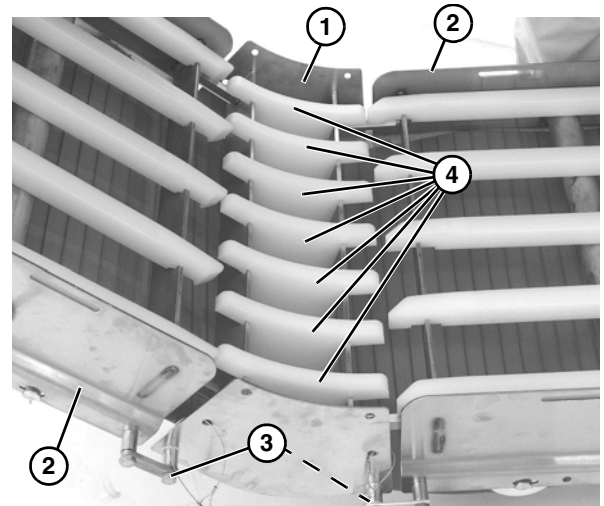

Figure 14
2. Attach lower knuckle (**Figure 14, item 1**) to frame (**Figure 14, item 2**) with hex rods and bolts (**Figure 14, item 3**).
3. Install wear strips (**Figure 14, item 4**).